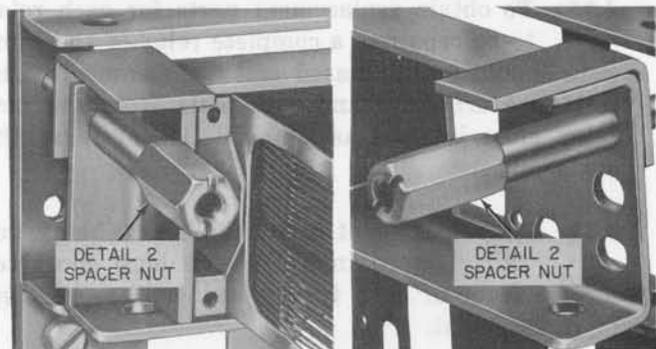

Fig. 15—Detail 2 Spacer Nuts in Place
- (h) Screw the detail 2 spacer nuts into the detail 4 studs at both ends of the mounting plate and tighten. (See Fig. 15).